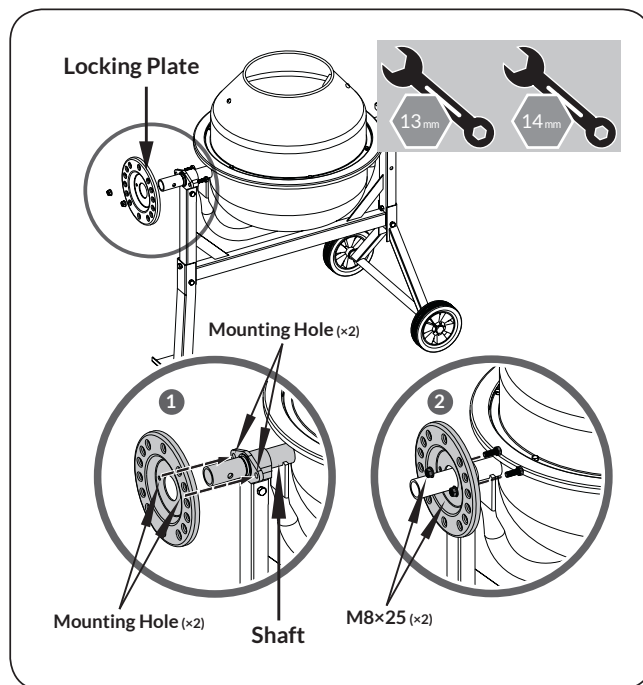

Figure 5a
1. Slide the locking plate over the large diameter shaft (at the “leg side” of the frame) with the rim facing inwards as shown. Insert two M8×25 bolts into the mounting holes, and secure each with a nut and flat washer. (See **Figure 5a**)